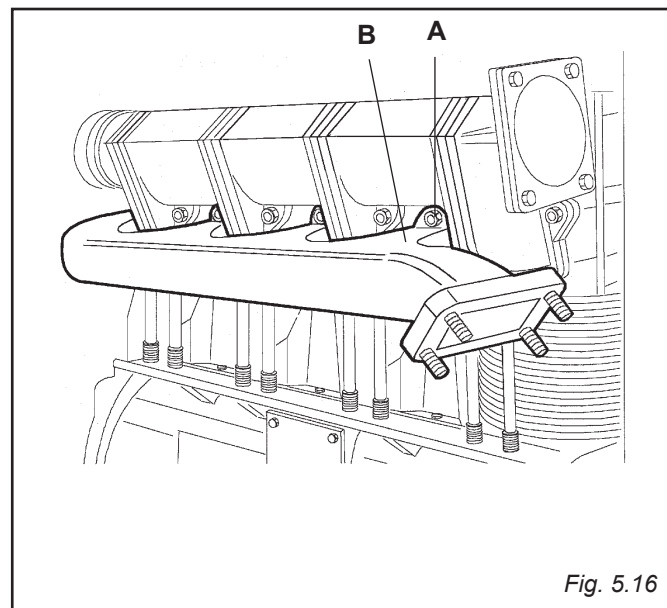

Fig. 5.16
5.20 EXHAUST MANIFOLD (FIG. 5.16)